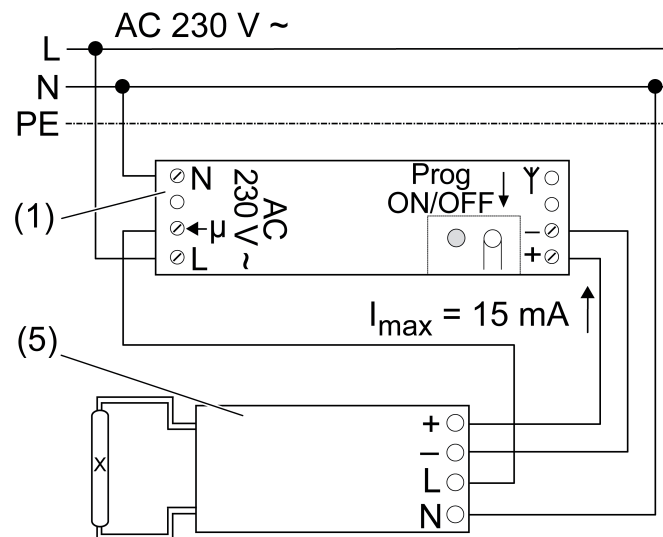

Figure 3
- Connect control unit (1) and lamp operating device (5) in accordance with connection diagram (figure 3).